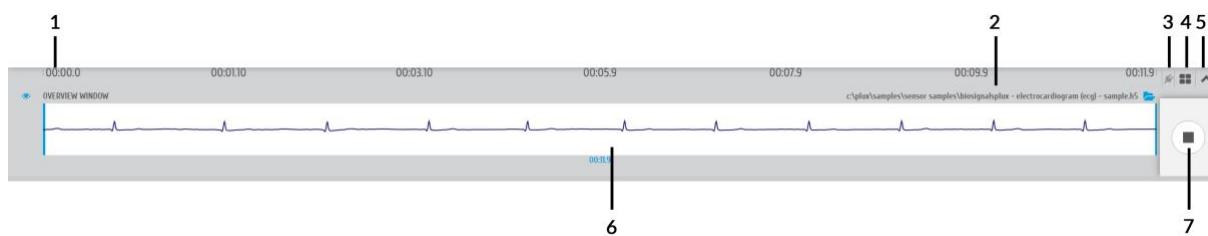

Figure 76: Control bar.
- Time axis (x-axis; 1 in Figure 76)
- File information and access to open file dialog (2 in Figure 76)
- Access *OpenSignals* add-ons (3 in Figure 76)
- Multi-channel visualization modes (4 in Figure 76)
- Unhide hidden channels (5 in Figure 76)
- Overview window (x-axis adjustments; 6 in Figure 76)